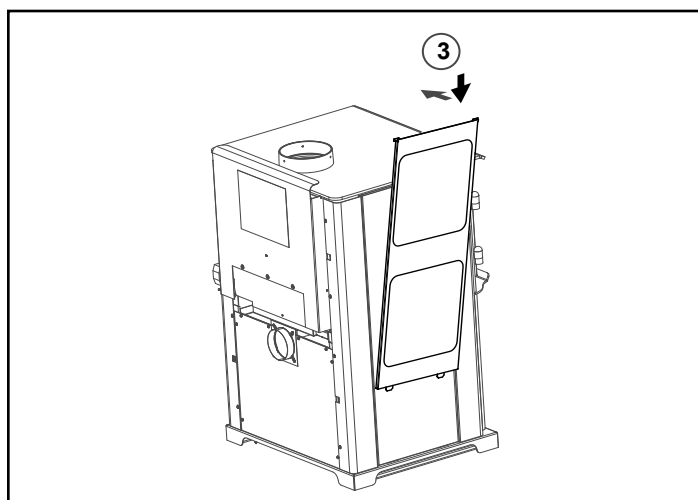

Figure 24.6
4. Reattach tile frame (**Figure 24.6**).